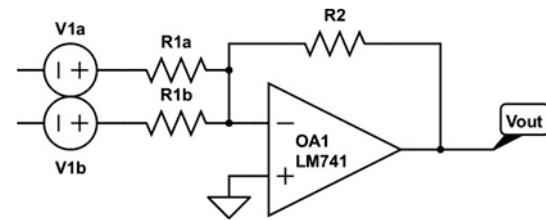

Figure 41: The summing amplifier
**The summing amplifier** shown in Figure 41 is one example of a circuit that is capable of a mathematical operation. It is often used to add a DC offset to an AC signal. Set up the summing amplifier with resistors in the 1k-10k range to generate a 2V 1kHz signal riding on a 1V DC offset starting with a 200mV AC signal from the function generator. Simulate the circuit first so you know what to expect.